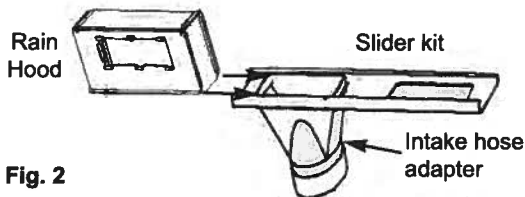

Fig. 2
2) Slide the Rain Hood flanges onto the edges of the slider kit until it is lined up with the intake vent (**shown in Fig 2**). Once the mounting holes on the slider, as well as the Rain Hood are aligned, secure the Rain Hood to the slider with the four mounting screws provided.